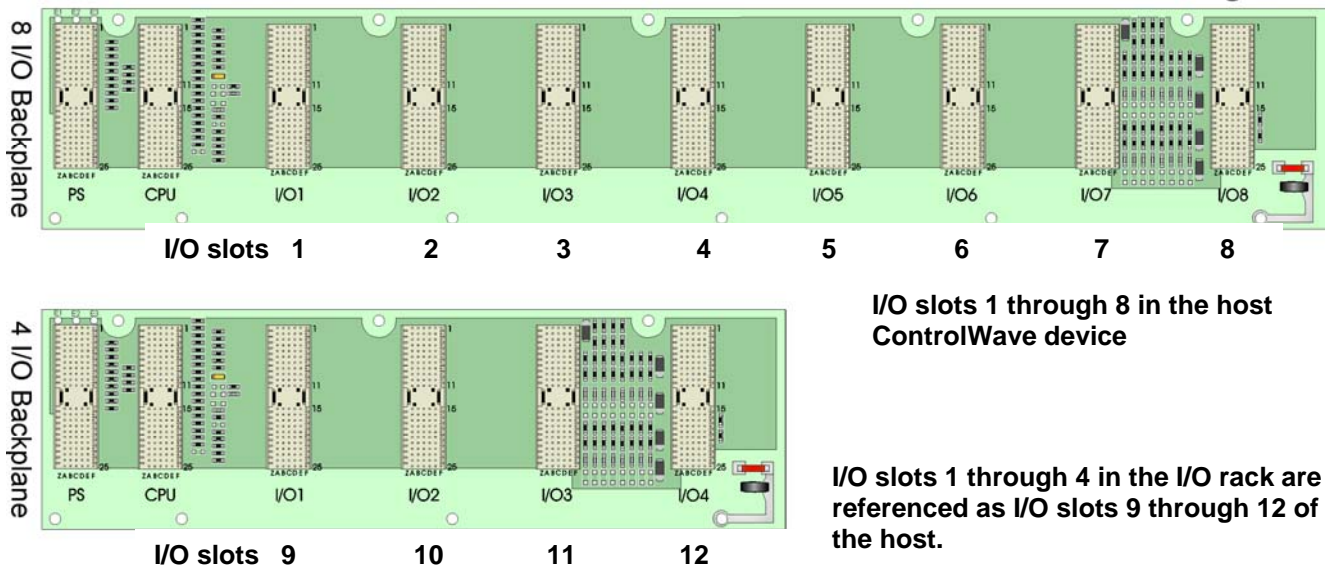

Figure B-1. Referencing I/O Slots Outside the Host
For example, if you have a ControlWave host controller with eight (8) I/O slots that has an attached I/O expansion rack with four (4) I/O slots, for Modbus addressing purposes you reference the I/O expansion rack I/O slots as slots 9, 10, 11, and 12. (See *Figure B-1*.)